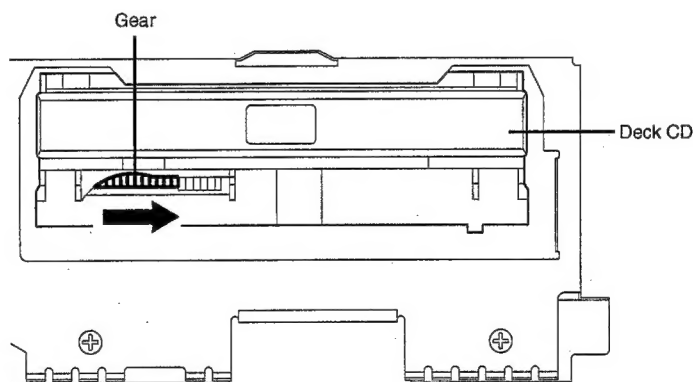

Fig. 3
1. Remove the Top Cabinet and Front Cabinet. (Refer to item 1 of the DISASSEMBLY INSTRUCTIONS.)
2. Rotate the gear of Deck CD section in the direction of the arrow by hand, remove the disc from Deck CD. (Refer to Fig. 3)